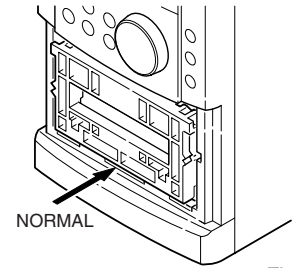

Fig.2
4. Use a + tip screwdriver to turn the screw for normal azimuth adjustment so that the left and right outputs are maximized at the same phase during normal playback. See Fig.2.